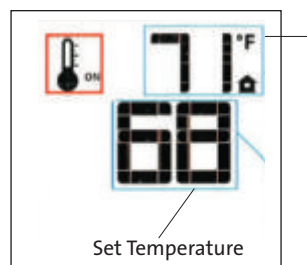

Figure 61. Thermostat ON.
- To activate this function, press the Thermostat Key. The display will indicate that the room thermostat is “ON” and the current Set Temperature is now displayed. Fig. 61.